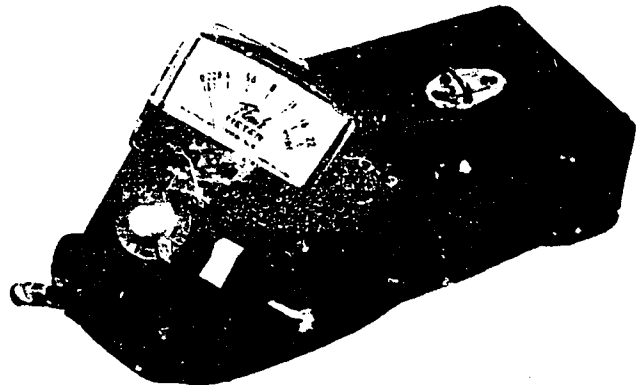

Figure 2-8. A flash meter.
**Flash Meters.** A flash meter, as shown in figure 2-8, allows you to determine the proper exposure for flash photography. We told you about guide numbers earlier, which are adequate, but for more precise